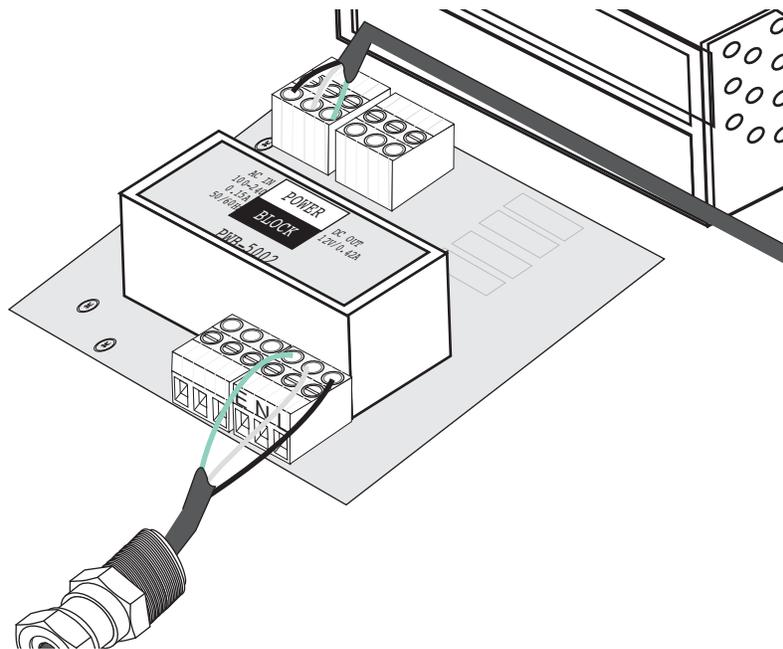

Figure 6. Connecting the power cable wires to the EnviroNET
2. Connect the power cable wires to the external power connection block that is labeled, E N L, as described in table 2. (Also, see figure 6).